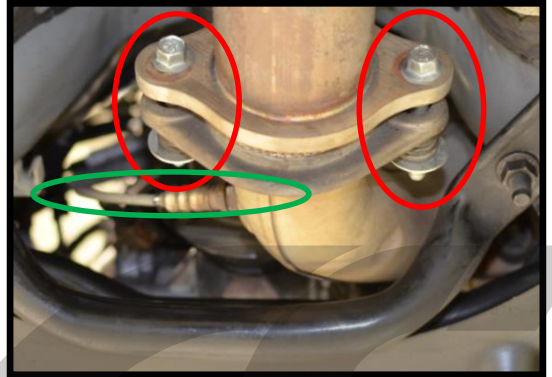

Figure 6d
- f) Remove the lower oxygen sensor. **Green circle** in **Figure 6d**.
- g) Remove the two 14mm bolts attaching the racebook to the cat back exhaust. **Red circles** in **Figure 6d**.